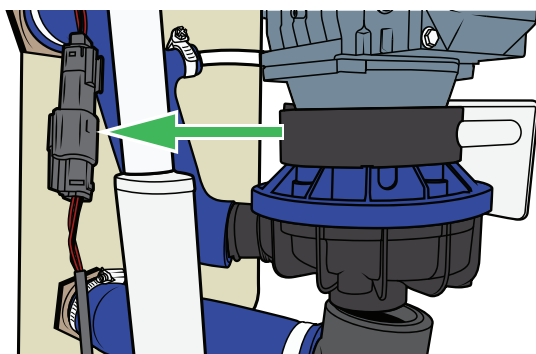

Figure 49
2. Disconnect the inlet sensor connector (detection of Hydromassage inlet strainer). See Figure 49.